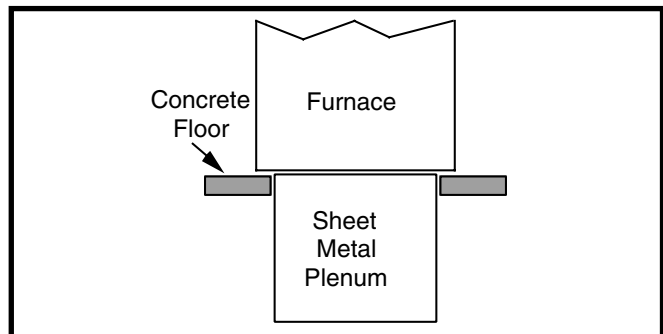

Figure 13. Furnace on a Concrete Slab
2. Position the plenum and the furnace as shown in Figure 13.